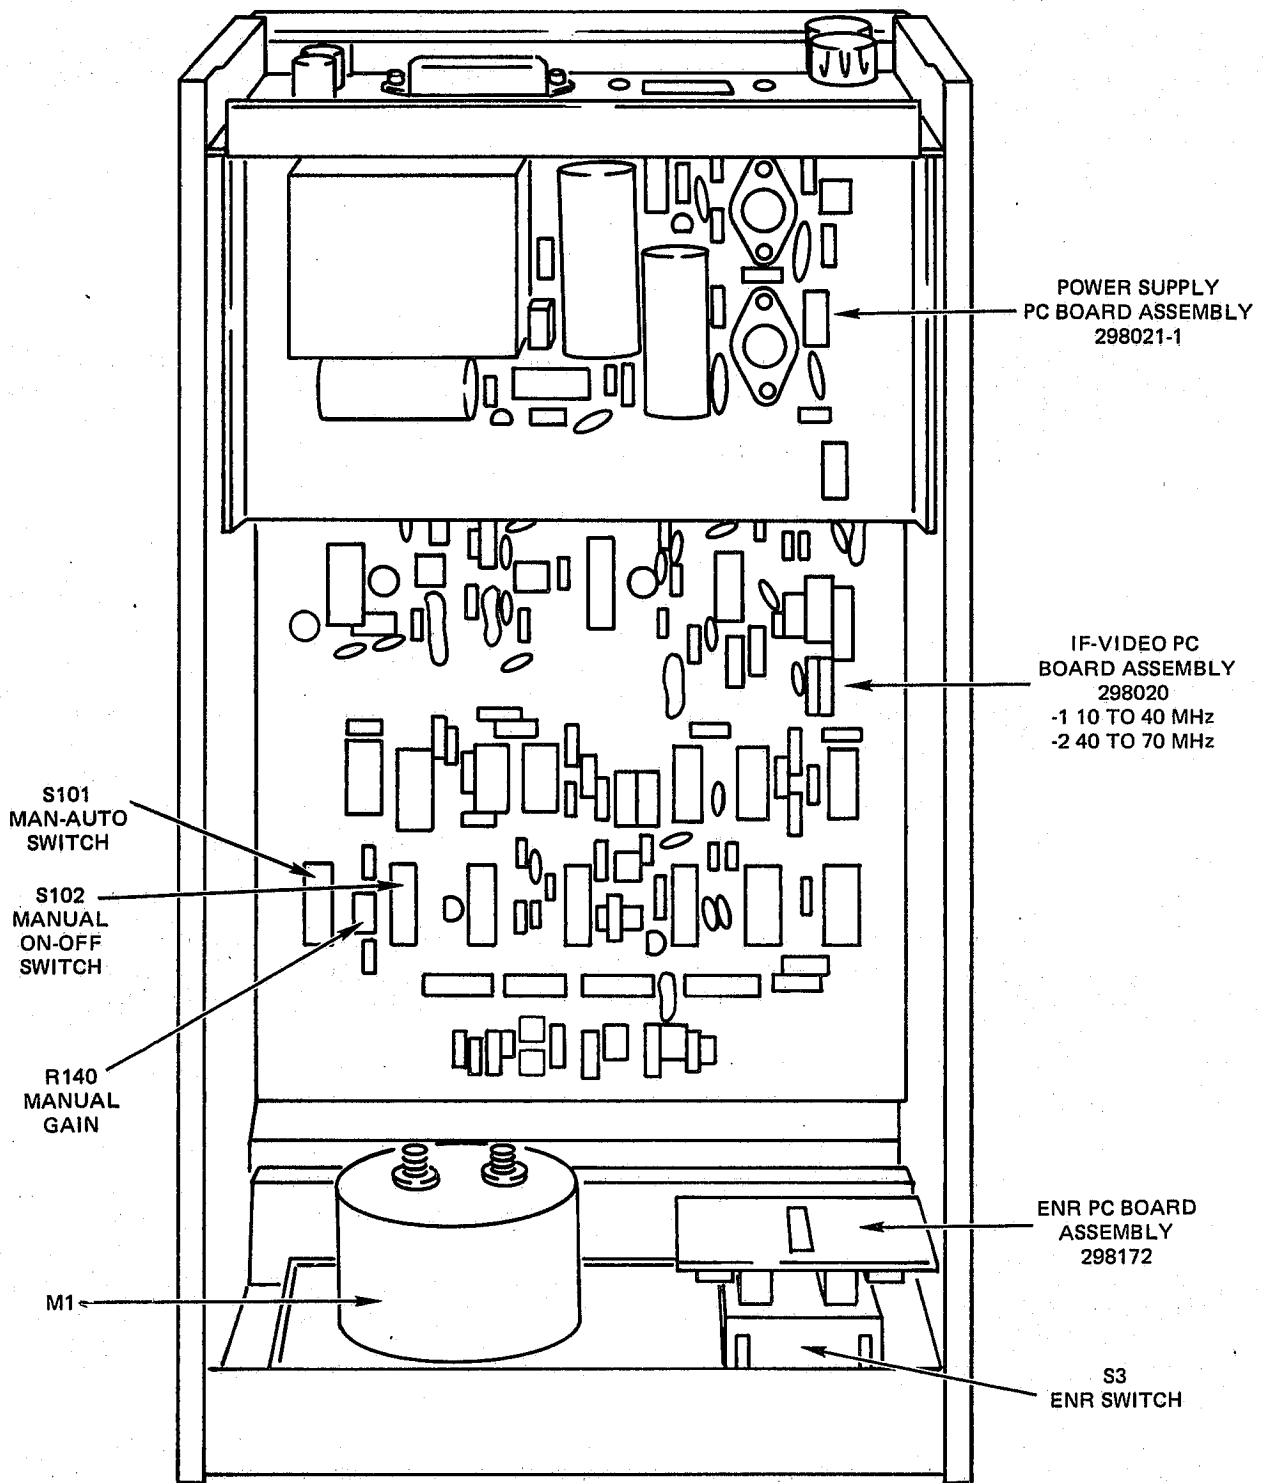

Figure 3-5. Location of the Manual-Auto Controls
- a. Remove the top cover of the SNM and locate the following controls on the IF-Video board (see Figure 3-5). These controls are on the front panel of those units equipped with Option 10, Manual Front Panel Controls:
- a. Remove the top cover and locate MAN-AUTO switch S101, Noise generator ON-OFF switch S102, and Manual GAIN control R140 on the IF-Video Board (see Figure 3-5).